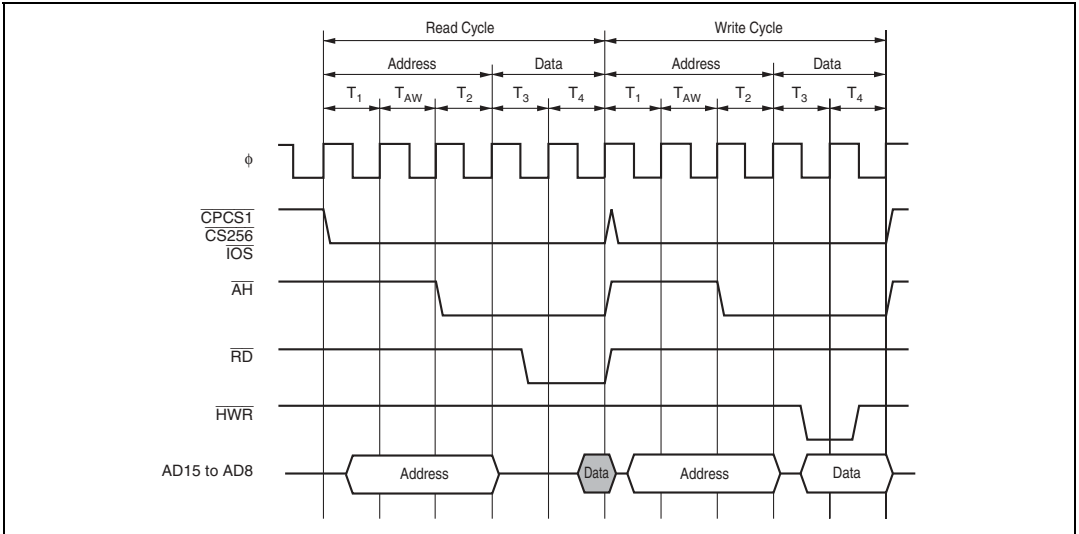

Figure 6.13 Bus Timing for 8-Bit, 2-State Access Space
(1) **8-Bit, 2-State Data Access Space:** Figures 6.13 and 6.14 show the bus timing for an 8-bit, 2-state access space. When an 8-bit access space is accessed, the upper half (AD15 to AD8) of the data bus is used. Wait states cannot be inserted.